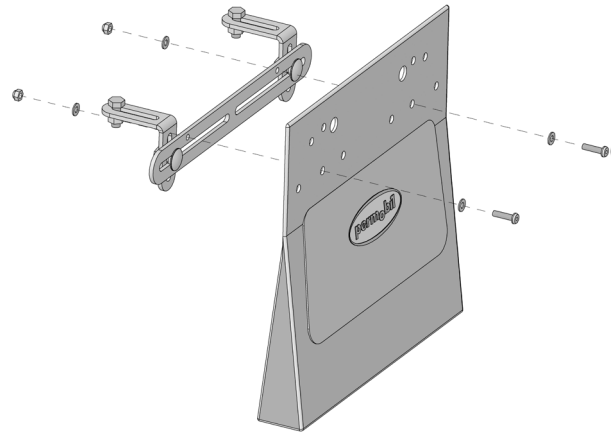

Fig. 13. Mounting of bag on bracket.
1. Mount the bag on the separately delivered bracket using the supplied screws, washers and nuts. See fig 13.